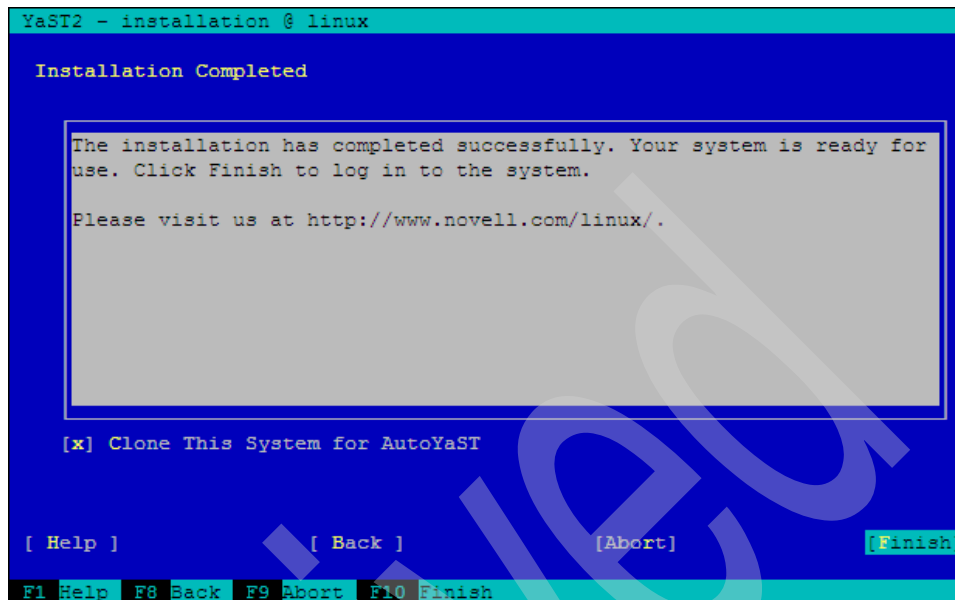

Figure 9-35 Installation completed window
28. YaST displays the Installation Completed window (Figure 9-35 on page 386). If you want to, select **Clone This System for AutoYaST** (see 9.5, “SLES 11 automated installation” on page 387 for more information) and then select **[Finish]**.
2. In the Installation Completed YaST window (see Figure 9-35 on page 386), select **Clone This System for AutoYaST** and then select **[Finish]**. This step creates an AutoYaST profile in `/root/autoinst.xml` that is ready for immediate use.